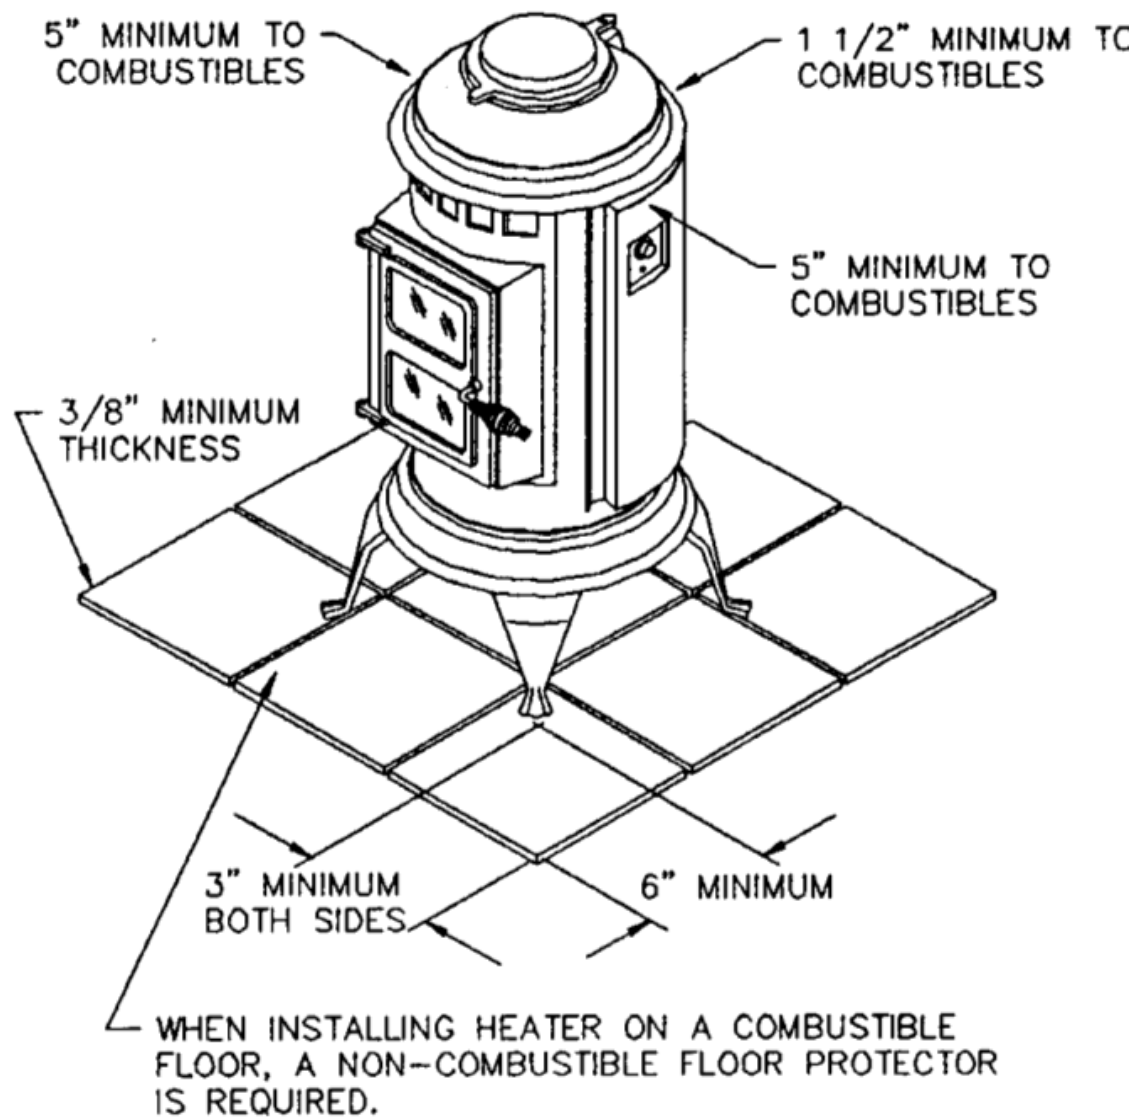

FIGURE 6
5. A 5-inch clearance to combustibles must be maintained between unit and sidewall. A 2- inch clearance to combustibles must be maintained between unit and back wall. If installed in a corner, clearance must be 5" to combustibles. See **FIGURE 6**.
6. A non-combustible hearth pad must be used if installed on a carpet, wood floor, or other combustible material (see **FIGURE 6**). Maintain 6" (152mm) beyond the front and beyond each side of the fuel loading and ash removal opening.
7. Keep front door of appliance thirty-six (36) inches from combustibles (drapery, furniture).